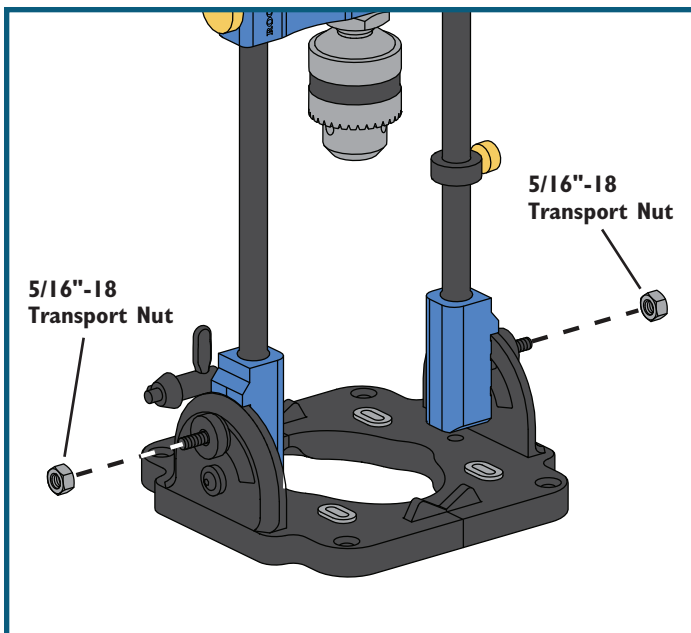

Fig. 1
1. Remove the two 5/16"-18 transport nuts from the threaded stems on either side of the Portable Drill Guide's base. **Fig. 1.**